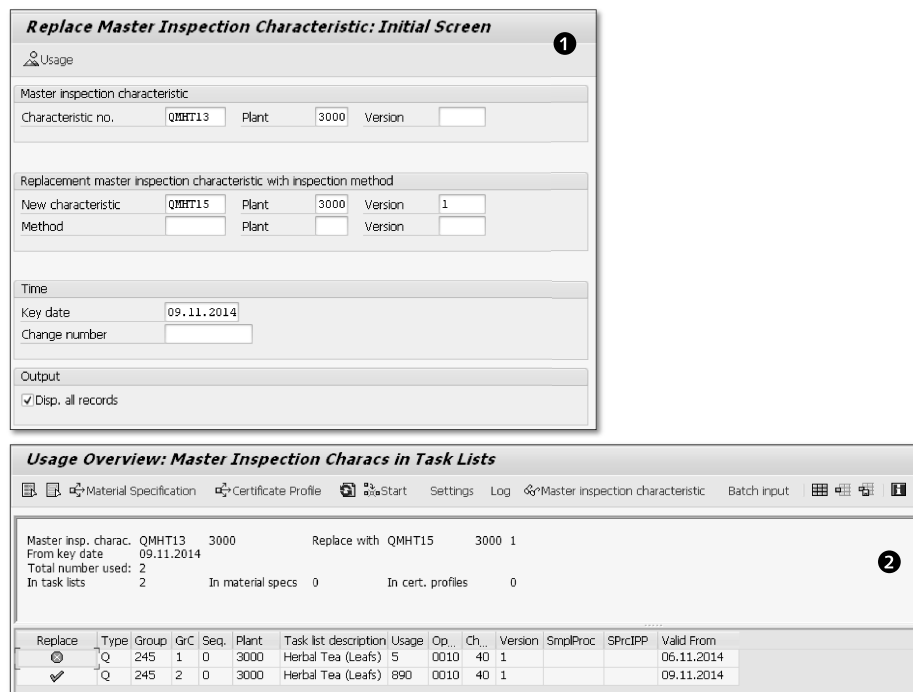

Figure 3.16 MIC and Inspection Method Replacement
To replace a characteristic or MIC, or an inspection plan, use Transaction QS27 or follow the menu path LOGISTICS • QUALITY MANAGEMENT • QUALITY PLANNING • BASIC DATA • INSPECTION CHARACTERISTIC • REPLACE. Figure 3.16 ❶ shows the initial screen where you enter the original or existing characteristic number and its plant. In the REPLACEMENT MASTER INSPECTION CHARACTERISTIC WITH INSPECTION METHOD area, you can enter only the new characteristic, the new characteristic and its associated inspection method, or either of the two. Choose USAGE, and ❷ appears. In ❷, you can choose to replace some or all of the characteristics listed, and do so online or as a batch input (background job).